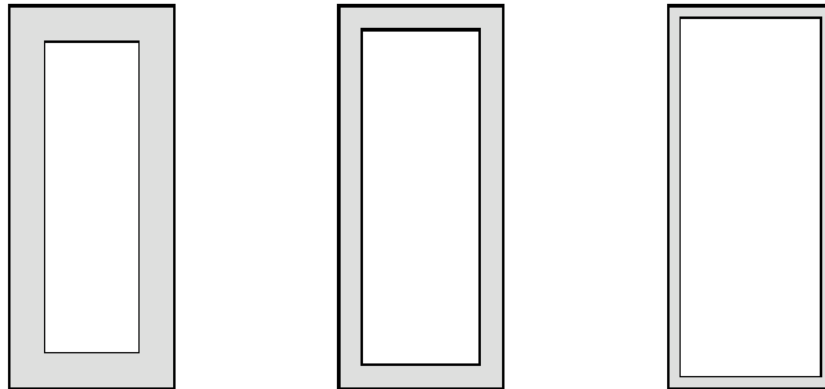

Figure 9. Solder Paste Application on Pins
5. The aperture opening for the signal pads should be between 50–80% of the QFN pad area as shown in Figure 9.